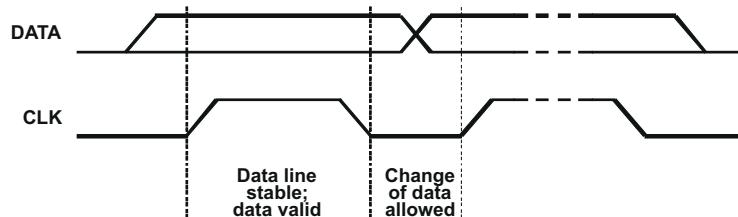
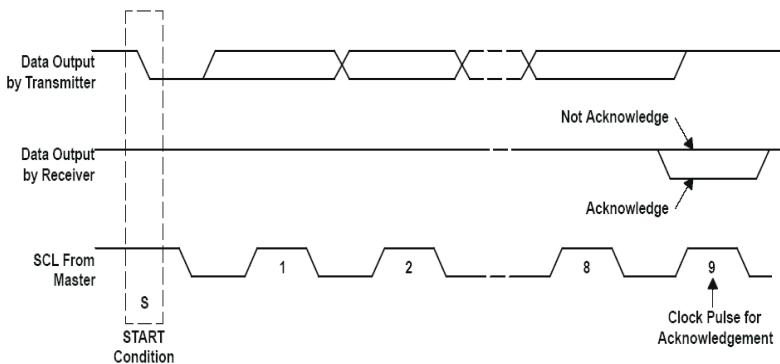

Figure 9-3. Bit Transfer on the Serial Interface
Figure 9-4. Acknowledge on the I2C Bus
The master then generates the SCL pulses, and transmits the 7-bit address and the read/write direction bit R/(W) on the SDA line. During all transmissions, the master ensures that the data is valid. A valid data condition requires the SDA line to be stable during the entire high period of the clock pulse (see Figure 9-3). All devices recognize the address sent by the master and compare it to their internal fixed addresses. Only the slave device with a matching address generates an Acknowledgment, ACK, (see Figure 9-4) by pulling the SDA line low during the entire high period of the SCL cycle. Upon detecting this Acknowledgment, the master knows that communication link with a slave has been established.